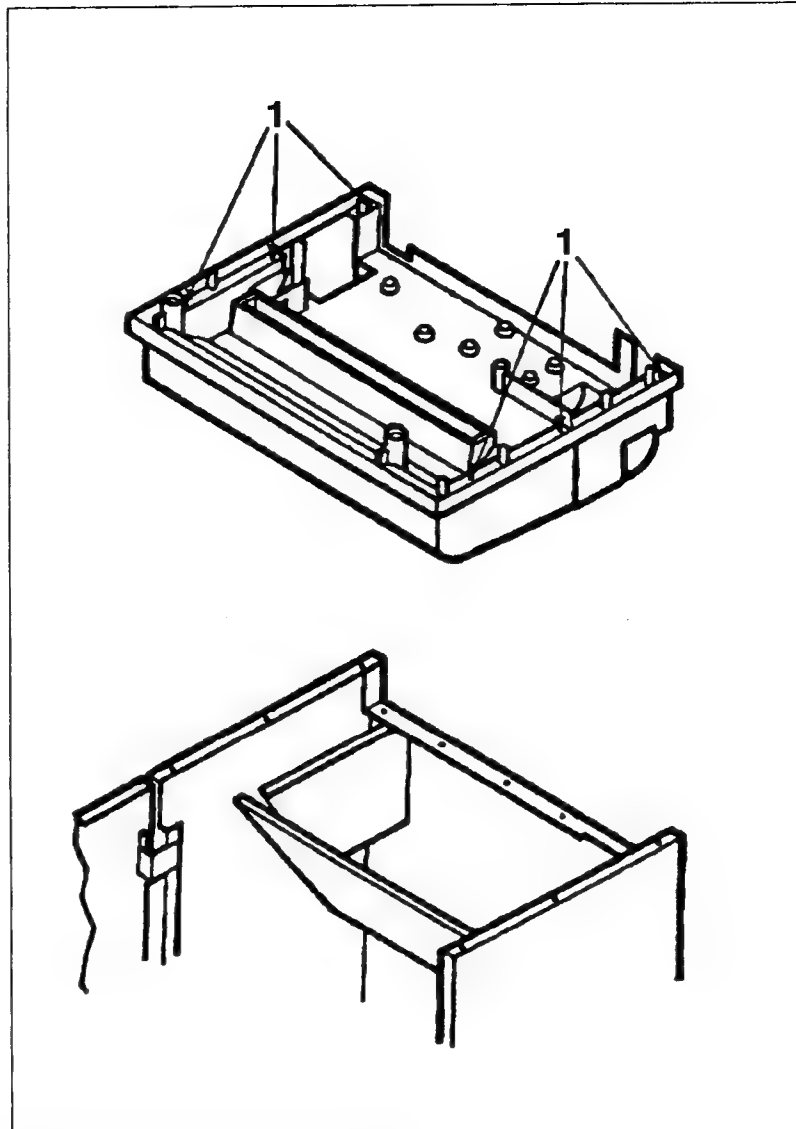

Figure 6-22. Printer Base Removal
- f. Remove the six screws from the base of the printer base (see Figure 6-22, item 1).